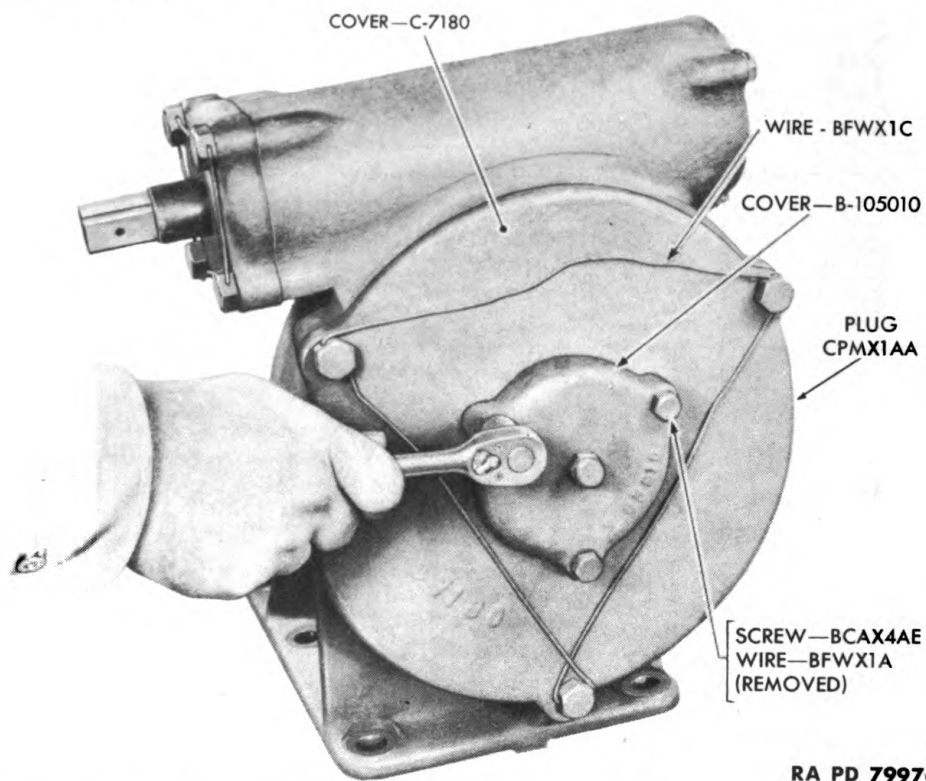

Figure 150—Removing Pinion End Cover from Housing Cover
(1) Remove pipe plug CPMX1AA from housing and drain the oil into a suitable container. Screw plug back in after draining so it will not be lost.
(2) Remove safety wire BFWX1A and three screws BCAX4AE from cover B105010 (fig. 150). Remove cover.